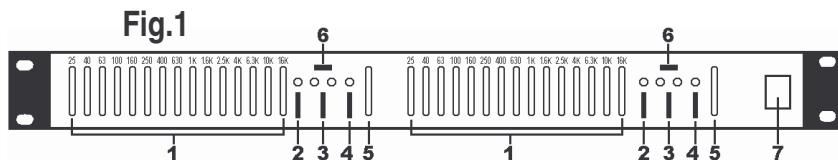

Fig.1
The equalizer is equipped with an activation switch (fig.1 #2) with a LED indicator. When the activation switch is ON, the red LED will be lit and the equalizer settings will be used. When the switch is off, the red LED is off and the device is in bypass mode: the signal will flow through at unity gain.
Also included is a 6/12dB range selection switch (fig.1 #3): the 6dB range has a green LED, the 12dB range a red one.
A 'low cut' switch (fig.1 #4) is provided as well: this switch sets the 30Hz level to -6dB.
A level control slider (fig.1 #5) controls the output with its range of $-\infty$ to +6dB.
Note: In case of excessive gain, the red peak LED (fig.1 #6) will light up when the signal comes to within 3dB of the clipping level. There is no problem if this occurs occasionally and the LED only flashes from time to time ; if the LED is lit continuously, the user should readjust the level control. Below are some tips for the initial setup.
1. Put the channel level controls (fig.1 #5) on the front panel on the central indentation (0dB).
4. Select the 6dB range (fig.1 #3 ; green LED on).